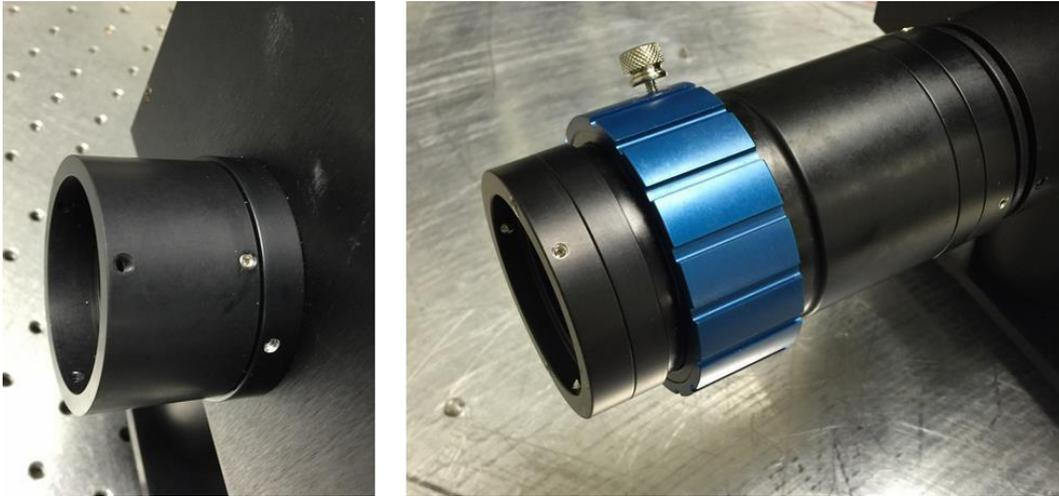
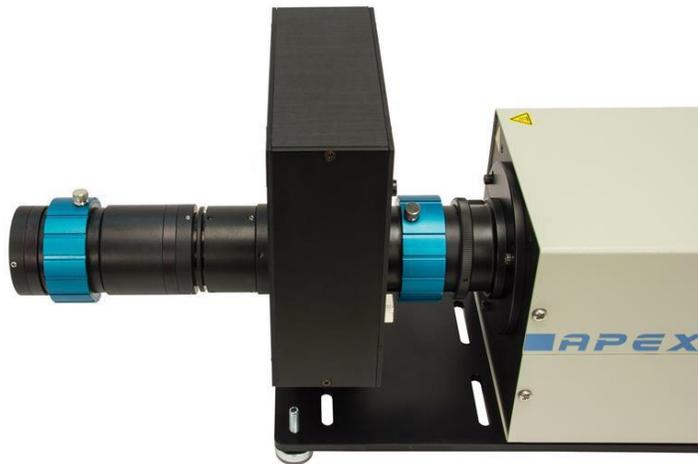

Figure 7: Female flange of the integrated light source unit (left) and installed front lens assembly (right)
Figure 8: Installed front lens assembly with Collimating Lens Adjustment Ring set screw oriented vertically for easy accessibility
3. Insert the male flange of the front lens assembly into the female flange of filter wheel of the integrated light source unit as shown in Figure 7. Install with the set screw of the blue Collimating Lens Adjustment Ring oriented upright as shown in Figure 8. This will make the set screw easily accessible for future adjustment. When the front lens assembly is installed in an optimal orientation, secure the assembly in place with the three 6-32 x 3/16 socket set cone point set screws provided.